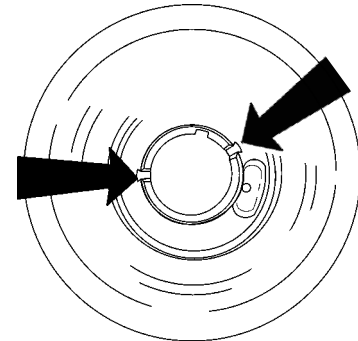

Fig. 3-17
2. There are two (2) slots on the underside of the universal joint assembly (Fig. 3-17) that correspond to two tabs on the drive block of the basket. These should be properly aligned when placing the universal joint on the drive block. When the universal joint is properly installed, there will be enough threads showing on the drive block to install the spanner nut.